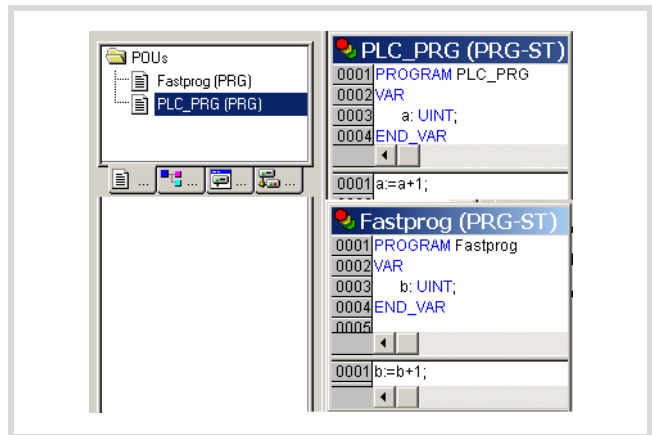

Figure 29: Writing a program
- ▶ Create the POU's "PLC_PRG" and "Fastprog" as shown in figure 29.